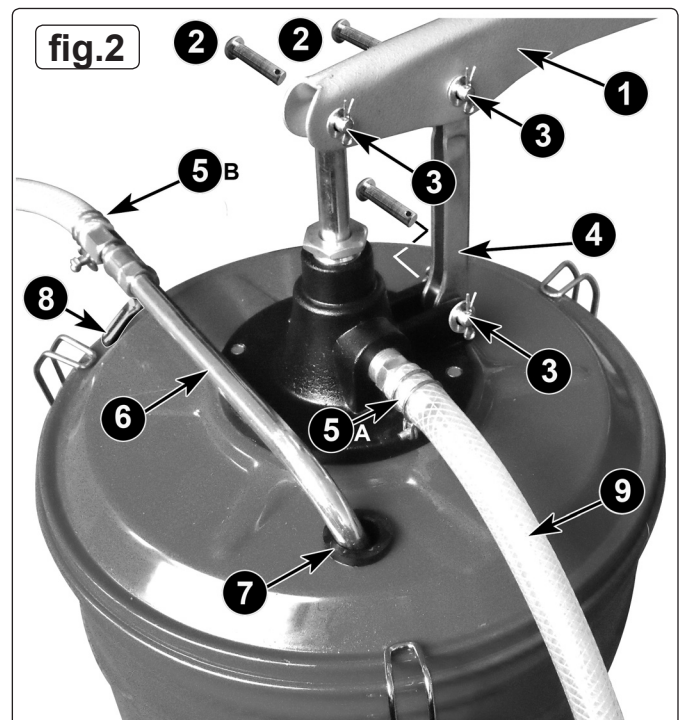

fig.2
- 3.3.1 Referring to fig.2, slide a wire hose clip over one end of the discharge hose (9) and push the hose onto the outlet on the casting in the centre of the lid. Slide the hose clip onto the fitting and tighten it to retain the hose. See (5A) in fig.2.
- 3.3.2 Slide the other hose clip over the other end of the discharge hose and push it onto the dispensing tube (6) adjacent to the valve. Retain the hose by tightening the wire clip. See (5B) in fig.2. The dispensing tube (6) is shown partially inserted into the stowage grommet (7). The tube can be fully inserted into the lid when not required.
- 3.4.1 Attach the handle (1) and link (4) to the lid and pump as shown in fig.2 using 3 pivot pins (2). Place a flat washer over each protruding pin and retain each pin with an 'R' clip. See 3 in fig.2.